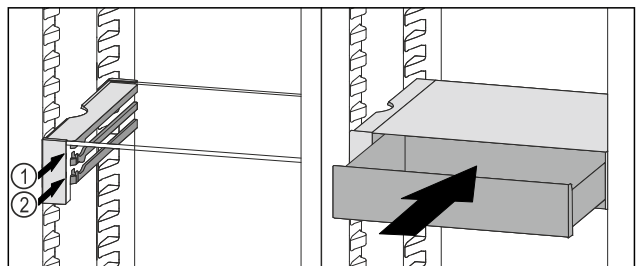

Fig. 61
- ▶ Place the VarioSafe drawer behind the stoppers on desired rib Fig. 61 (1) or Fig. 61 (2).